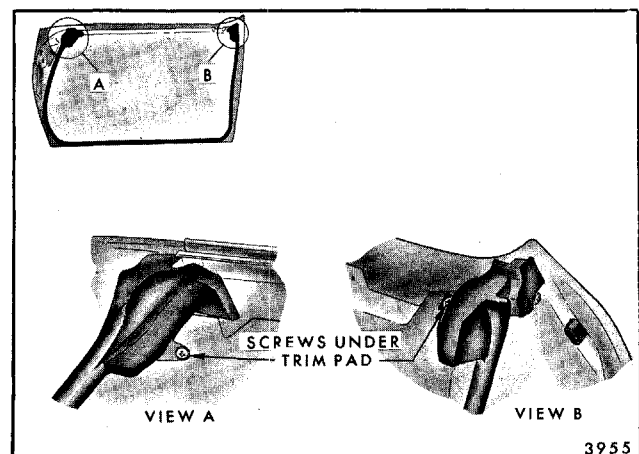

Fig. 5-36-Door Weatherstrip - Coupe Styles
1. On A and F coupe styles, remove door trim pad to gain access to weatherstrip fasteners hidden under trim assembly and remove fasteners. On E styles, remove upper portion of trim only (Fig. 5-36).